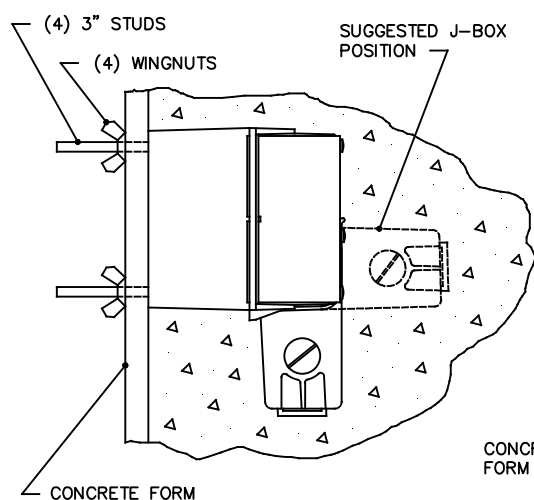

FIG. 1
2. Attach the 3" locating studs to housing per fig. 1. Leave screws on out side of housing in place.
3. Repositioning the j-box per fig. 1 is suggested prior to installation, but not mandatory.
7. Install housing assembly on concrete side of forms. Insert 3" locator studs through the holes created in step 6 per fig. 1. Take care to orient housing per fig. 1 and arrows on housing. Secure with wingnuts from mounting kit provided.